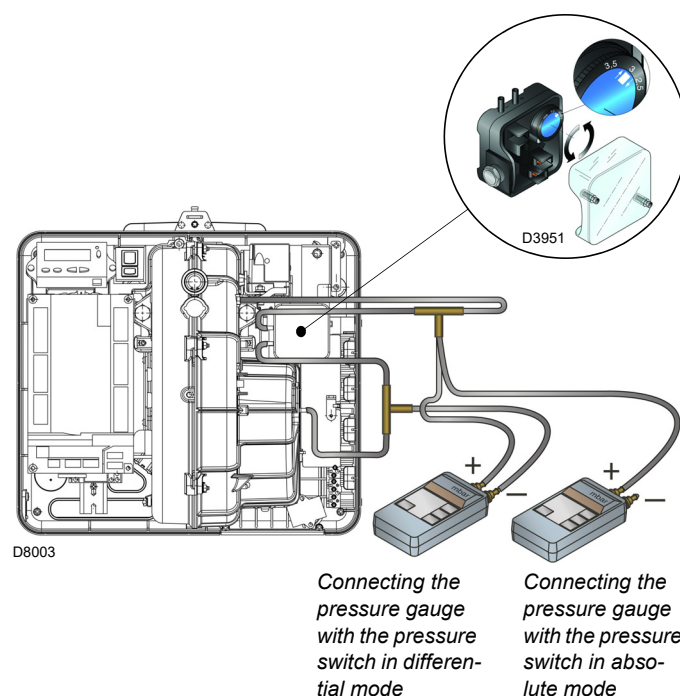

Fig. 32
- Adjust the air pressure switch (Fig. 32 at page 32) to the start of the scale.
Adjust the air pressure switch (Fig. 32) after having performed all other burner adjustments with the air pressure switch set to the start of the scale.
The connection of the pressure gauge is shown in Fig. 32. The standard configuration is that with the air pressure switch connected in absolute mode. Note the presence of a "T" connection, not supplied.
In this case also, the pressure gauge must be connected in differential mode, as shown in Fig. 32.